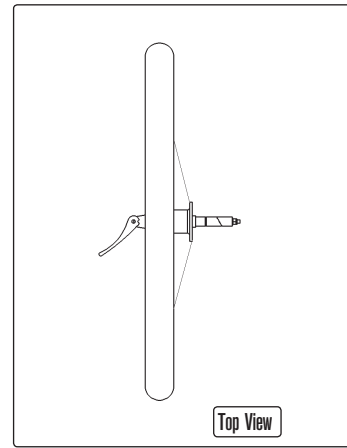

FIGURE 4: Quick release lever in unlocked "open" position
1. Insert wheel axle assembly completely into trailer axle. **FIGURE 4**